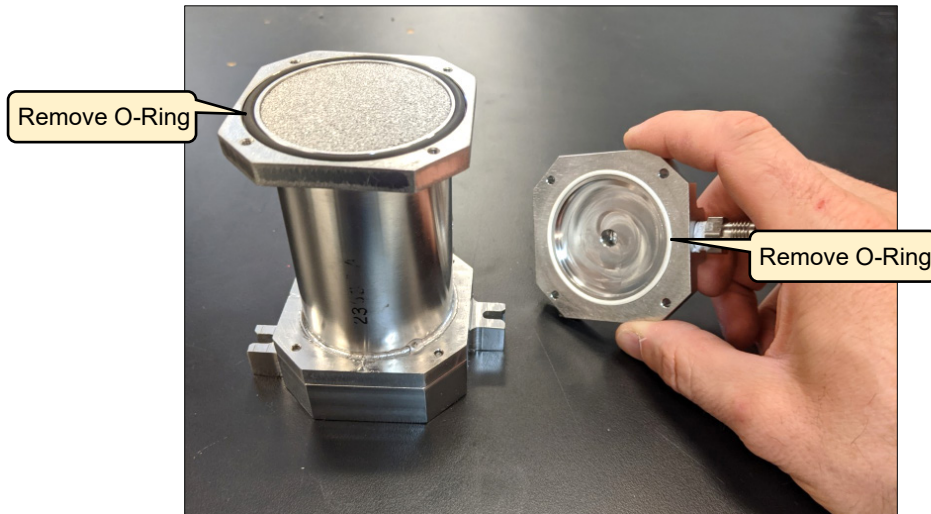

Figure 49: Removing Top Cover and O-rings
2. Carefully remove the top cover. Remove both o-rings (Figure 49).